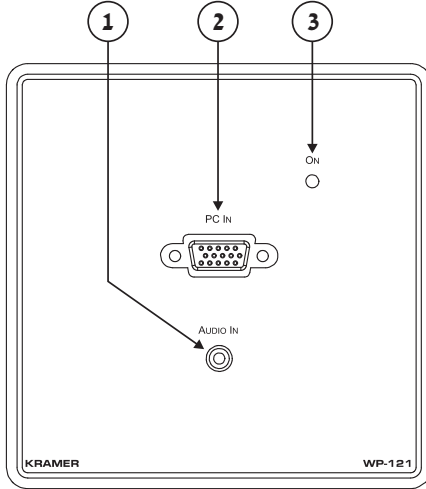
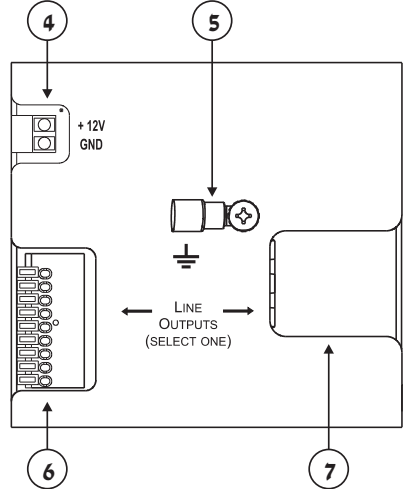

Figure 1: WP-121 Front Panel
Figure 2: WP-121 Rear Panel
Figure 1 and Table 1 define the front panel of the WP-121. Figure 2 and Table 2 define the rear panel of the WP-121.
4. Connect the 12V DC power adapter to the power terminal block (see Figure 2) on the **WP-121** and connect the adapter to the mains electricity.
3. Connect the 12V DC power adapter to the power terminal block (see Figure 2) on the **WP-121** and connect the adapter to the mains electricity.